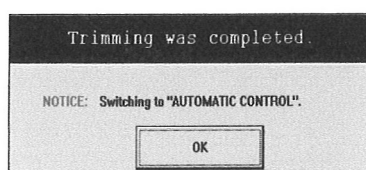

Fig.44
- ⑤ If you clicked on "NO" and want to work with the 20mA trim, the procedure remains the same as the 4mA trim: make sure that the milliammeter connected reads 20mA.
- ⑥ Similar to the 4mA trim, you are prompted whether to make readjustment or not. Click on "YES" if you want to repeat the process, or "NO" if you want to exit the 20mA trim.
- ⑦ Clicking on "NO" button brings an end to the analog output trim. A message box "Trimming was completed" as shown in Fig. 44 appears. Click on "OK" button.